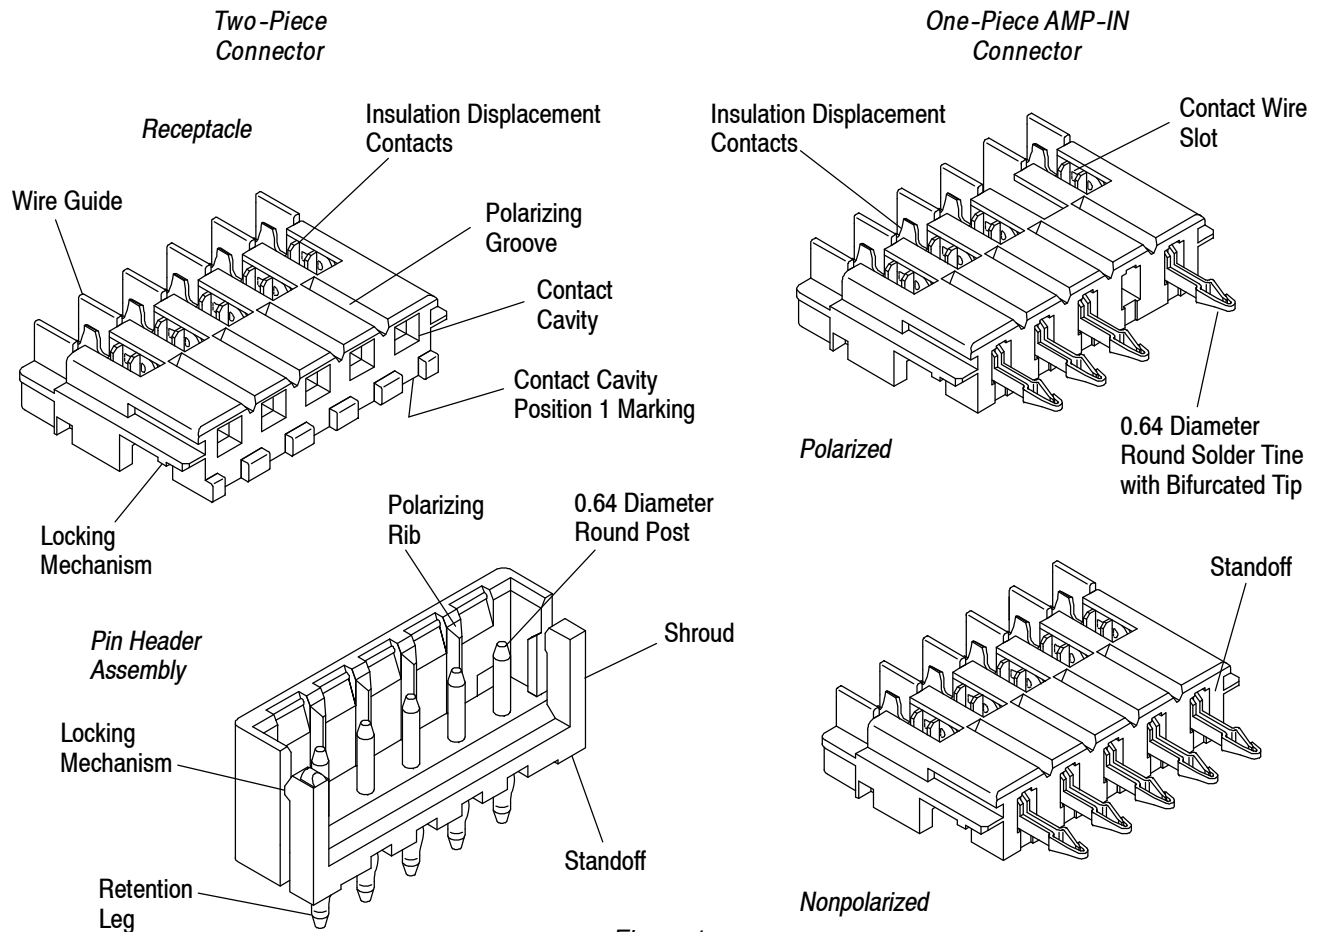

Figure 1
When corresponding with TE Connectivity Personnel, use the terminology provided in this specification to facilitate your inquiries for information. Basic terms and features of these connectors are provided in Figure 1.
3.3. Special Features (See Figure 1)